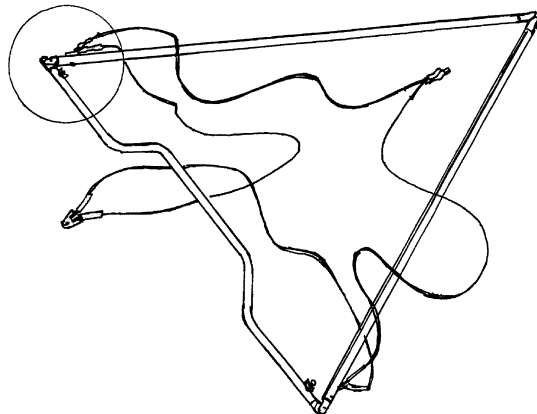

Fig.2
2.1.4. Remove protective bag from the bottom of uprights. Spread the uprights. Install the speedbar so that off-set of the speedbar is directed forward and upwards to the flight direction (in the same direction as bottom front wires with the hook). (Fig.2).